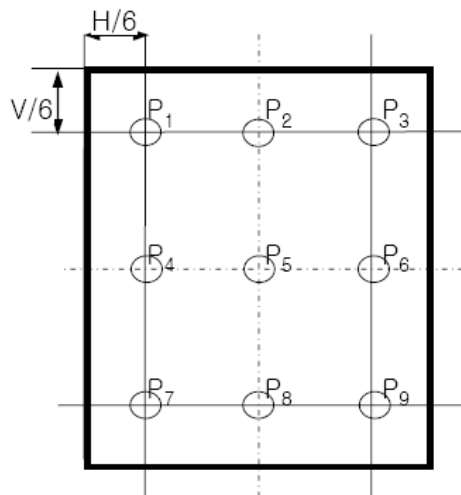

Figure 9: Uniformity Measurement Locations
3. Uniformity measurement shall be taken at the locations shown in FIG. 9, for a total of the measurements per display, measure surface luminance of these nine points across the LCD surface 50cm from the surface with all pixels displaying white.